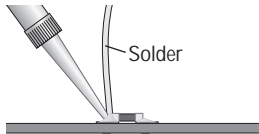

Figure 1.5.
4. Fully solder the other end of the component to its pad. Let the solder harden (Figure 1.5).